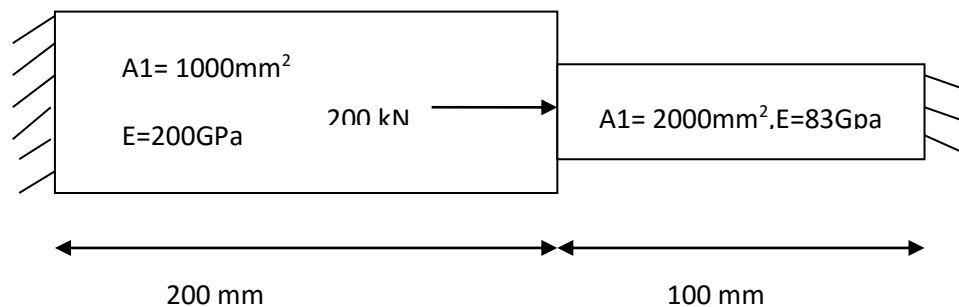

Figure 1
- 1 a) What do you mean by essential and natural boundary conditions. (5)
- b) Explain Variational method of approximation (4)
- 2 a) Describe any three weighted residual methods with example (9)
- 3 a) Find the Nodal displacements for the system shown in Figure 1. (9)